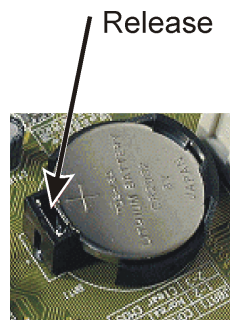
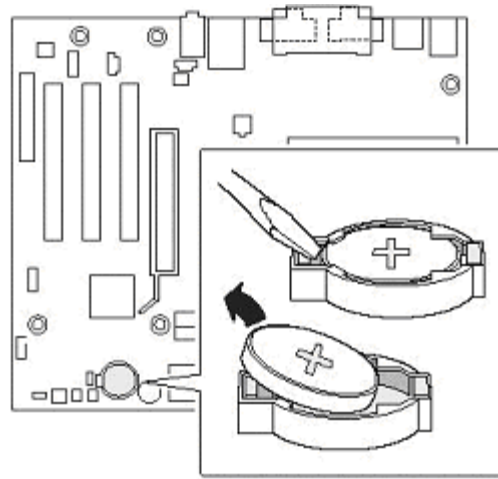

Figure 5: Release Tab for motherboard battery
Figure 6: Removal of motherboard battery
- 9 Using a small flathead jewel screwdriver locate the motherboard battery release tab (see Figure 5) and push the tab away from the battery (see Figure 6) and the battery will pop out.